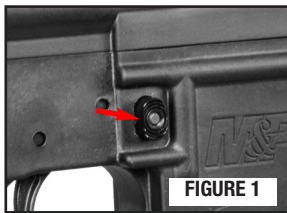

FIGURE 1
- When you inspect your firearm, you should first check for yourself to ensure that it is unloaded. To do this, grasp the firearm with your finger off the trigger and outside the trigger guard, point the muzzle in a safe direction, depress the magazine release (FIGURE 1) and remove the magazine.